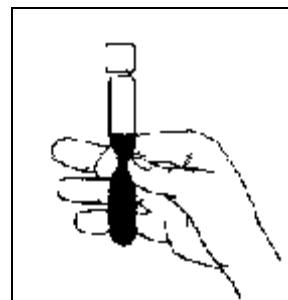

Figure 4
2. Remove the black cap from the glass vial containing the extraction solvent and pour the entire contents of the vial into the tube containing the soil. Replace the white cap on the plastic test tube tightly and shake the tube vigorously for one minute. Break up any lumps of soil by squeezing the sides of the test tube during the shaking process (See Figure 4). Allow the tube to settle upright for two minutes.